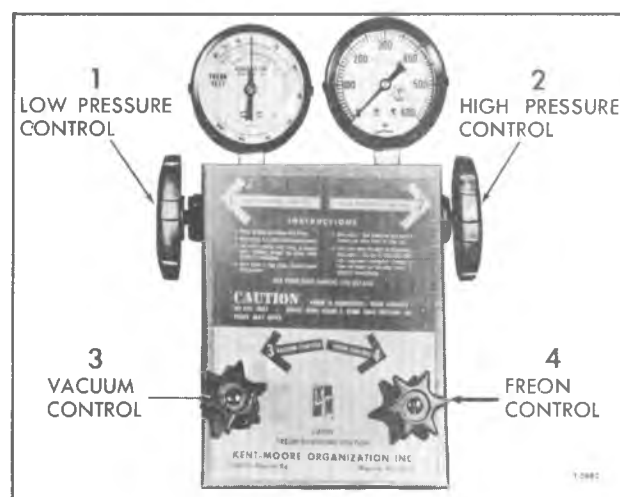

Figure 12—Charging Station Controls
3. See figure 12. Turn high pressure control (2) one turn counterclockwise (open). Crack open low pressure control (1) and allow refrigerant gas to hiss from low pressure gauge line for three seconds, then connect low pressure gauge line to low pressure gauge fitting.
1. Install charging station as previously described. Refer to figures 12 and 13 while performing the following operation.
3. Crack open high (2) and low (1) pressure control valves (fig. 12), and allow refrigerant gas to purge from system. Purge slow enough so that oil does not escape along with the refrigerant.
5. Turn on vacuum pump and open vacuum control valve (3).